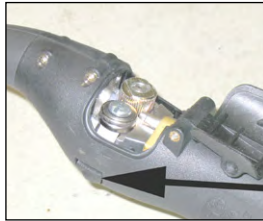

Figure 3
1. Push the idler lever, this will relieve the pressure against the drive roll (as shown in Figure 3).